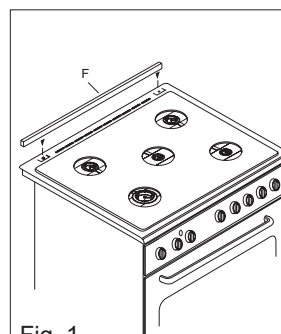
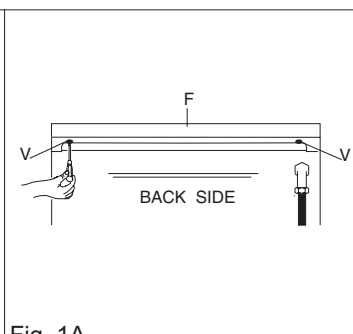

Fig. 1
Fig. 1A
the cooker is fitted with a metallic rear hob protecting profile ("F", see fig. 1) which must be assembled in following way:
- put the profile (F) on the rear part of the cooker as in fig. 1, and screw the delivered screws (V) as in fig. 1A.